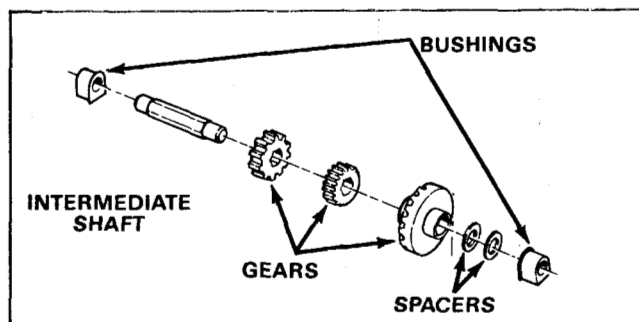

Figure 71
1. Slip an intermediate shaft bushing onto the left end of the intermediate shaft, flanged end first. See Figure 71.